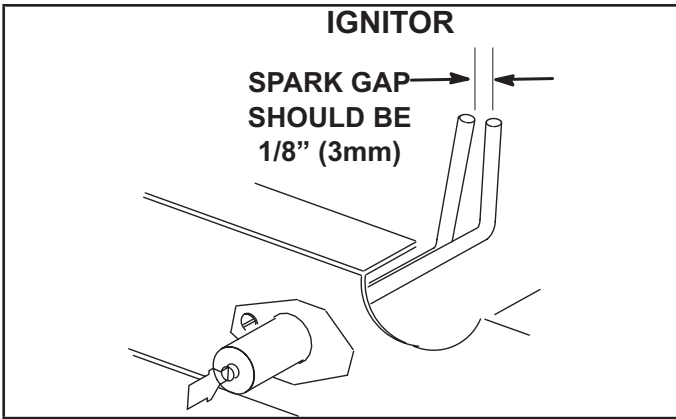

FIGURE 47
- 4 - Locate the ignitor under the left burners. Check ignitor spark gap with appropriately sized twist drills or feeler gauges. See FIGURE 47.
- 5 - Check the alignment of the ignitor and the sensor as shown in FIGURE 47 and TABLE 26.